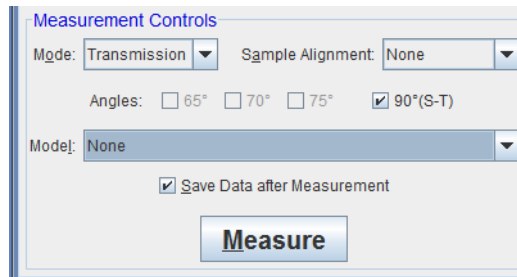

Figure 5-6. Measurement settings for Transmission Intensity measurement. Note ‘Mode’ = Transmission.
4. Press **Measurement**>‘Measure’ with the selections shown in Figure 5-6. Note ‘Mode’ = Transmission.